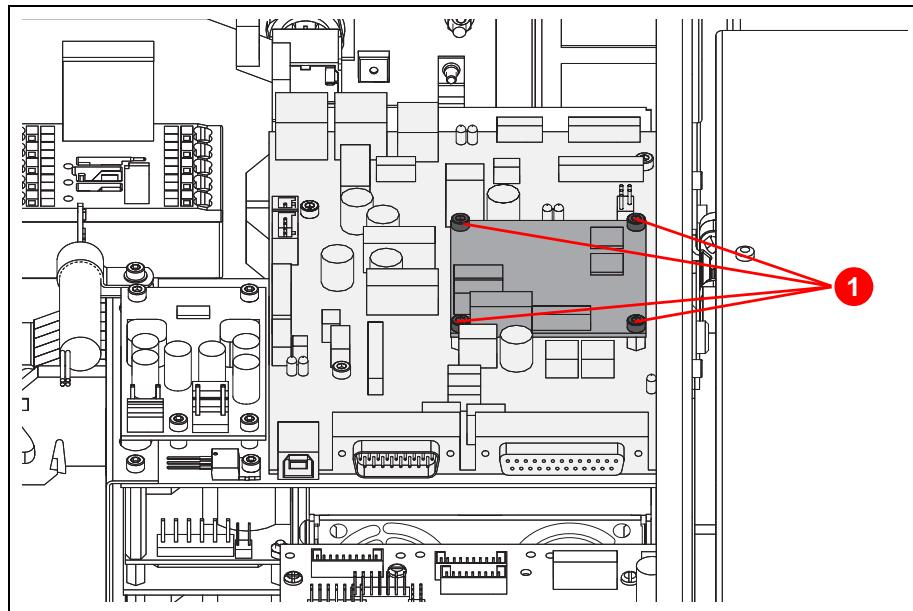

Figure 3.58 SSC
2. Unscrew the fastening screws of the SSC module (1) (Figure 3.58).